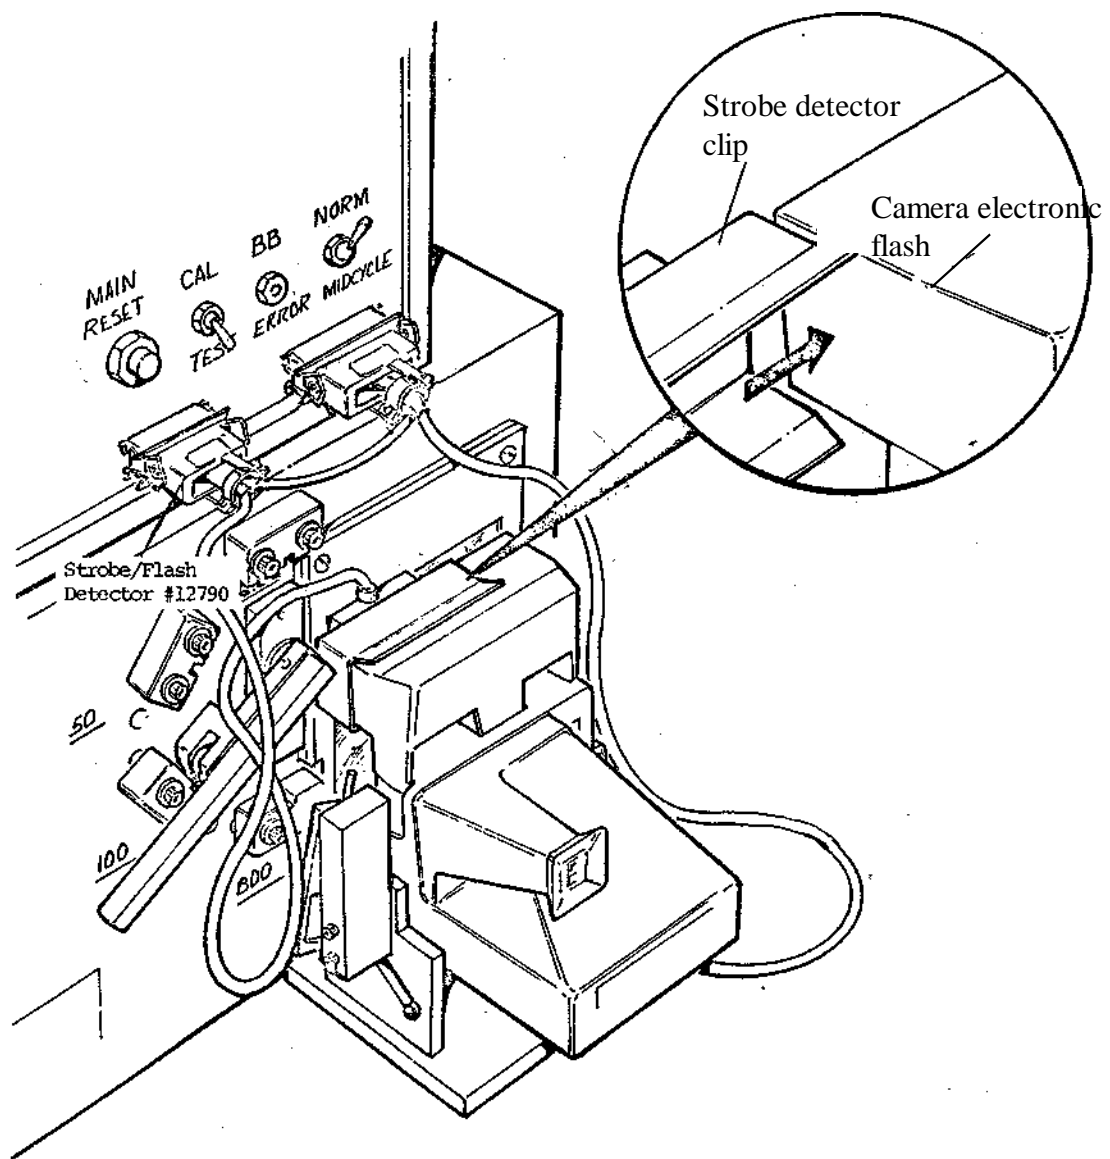

Fig. 2 Camera on Horn, ready for testing
3. Plug the strobe/flash detector fixture #12790 into the B-600 jack as shown in Figure 2. Install the strobe detector clip over the camera strobe.	3. Plug in strobe/flash detector. Install detector clip on camera.